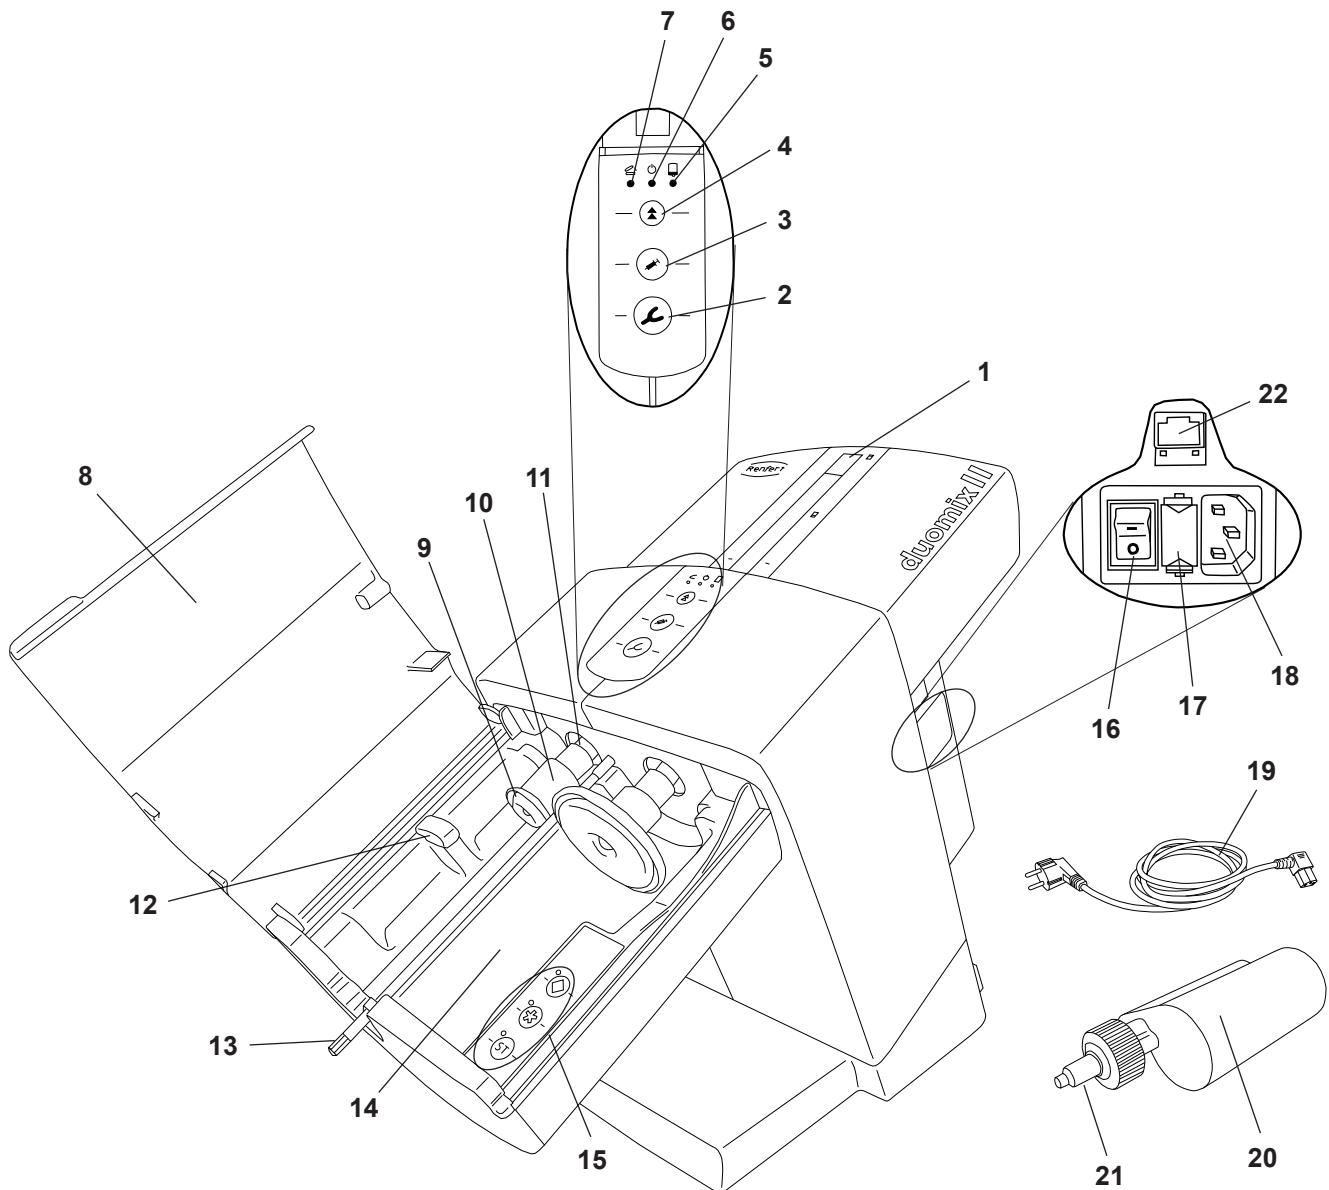

Fig. 1
- ⇒ Connect the provided power cord (19, Fig. 1) to the mains connection socket (18).
- ⇒ Switch the unit on at the mains power switch (16).
- ⇒ Close the unit cover (8, Fig. 1).
- ⇒ Press the retract key (4).
- ◆ The pressure discs (9, Fig. 1) retract to their home position where they stop.
- ⇒ Remove the shipping restraint (23).
A cartridge can only be installed or replaced if both pressure discs (9, Fig. 1) are in their home position.
⇒ Close the unit cover (8, Fig. 1).
⇒ Open the unit cover (8, Fig. 1).
The cover will only close if the cartridge has been properly installed. The red “Unit cover open” LED (7, Fig. 1) will remain on until the unit cover has been properly closed.
- ⇒ Press and hold down the advance key (2) or (3) (depending on the desired speed or function):
- Impression tray (2), fast extrusion speed
- Dispenser (3), slow extrusion speed
- ◆ The mixing hexagon (13, Fig. 1) starts to turn and threads its way automatically into the mixing nozzle (21, Fig. 1) and then stops again.